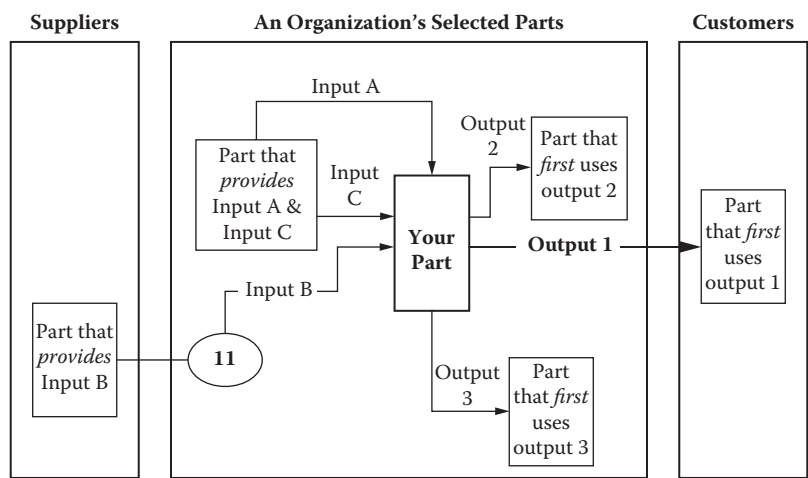

Figure 4.30 Relationship map for "Your Part" of the organization with *immediate* supplier–customer relationships shown (output and connections added).
11. Draw and label the inputs and outputs to reflect the **connections among the parts as a whole** (Figure 4.30).